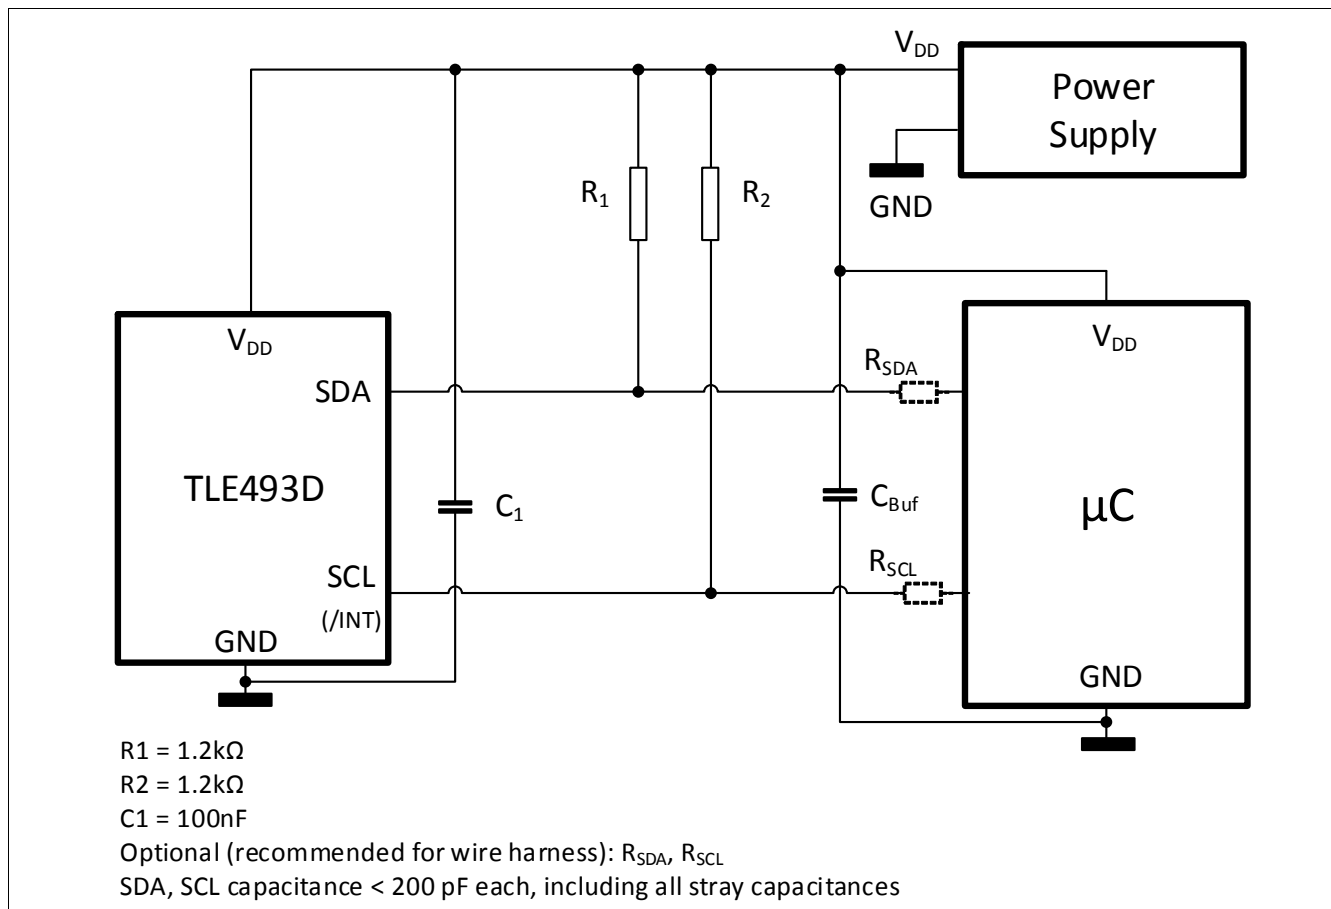

Figure 5 Application Circuit with external power supply and μC
At Power Up, SDA and SCL shall be pulled to V_{DD} using R1 and R2 of Figure 5 and not be driven to low by any device or μ C on SDA and SCL.
1) Currents at pull up resistors (Figure 5) needs to be considered for power supply dimensioning.